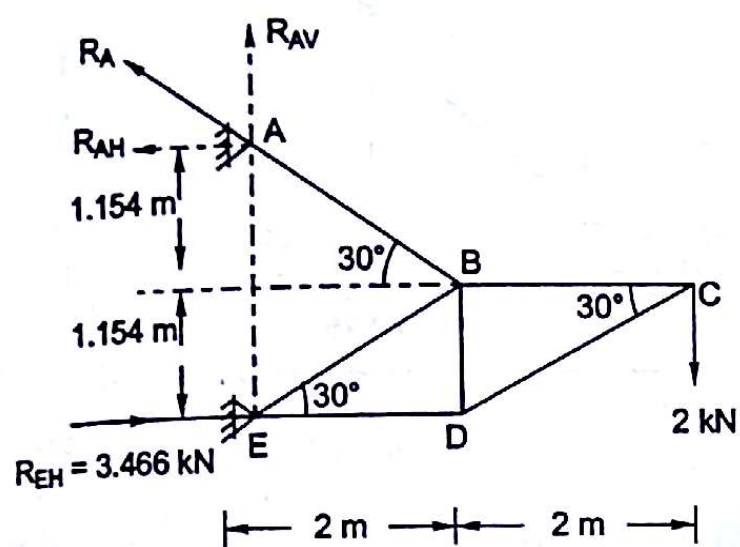

Fig. 4.26
- 4.1 A cantilever truss is shown in Fig. 4.26. Determine support reactions and forces in members BE and DB of the truss.